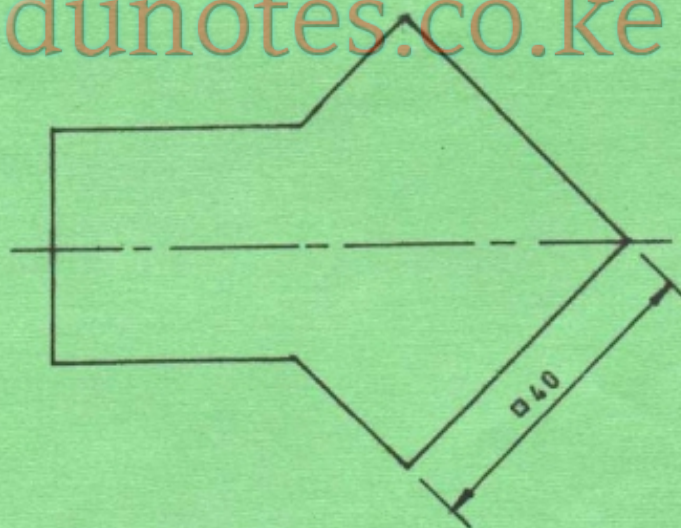

Fig. 4
7. **Figure 4** shows two incomplete views of a cylinder meeting a square pyramid at right angles. www.edunotes.co.ke